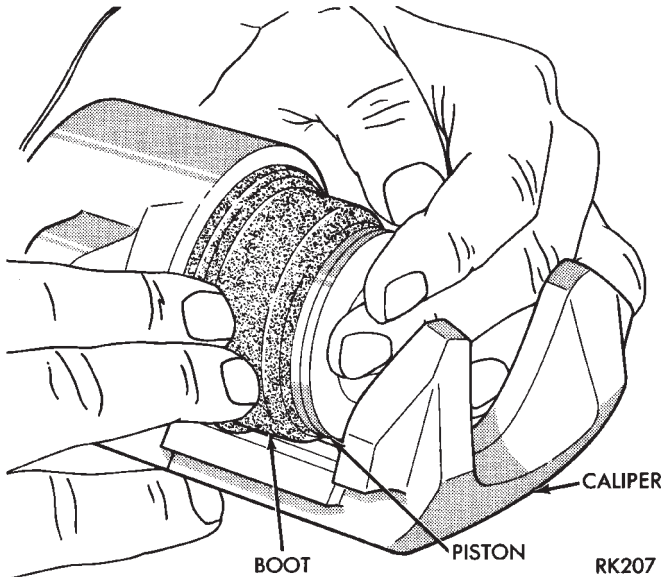

Fig. 170 Installing Piston Into Caliper Bore
(5) Install piston into caliper bore pushing it past the piston seal until it bottoms in the caliper bore (Fig. 170).